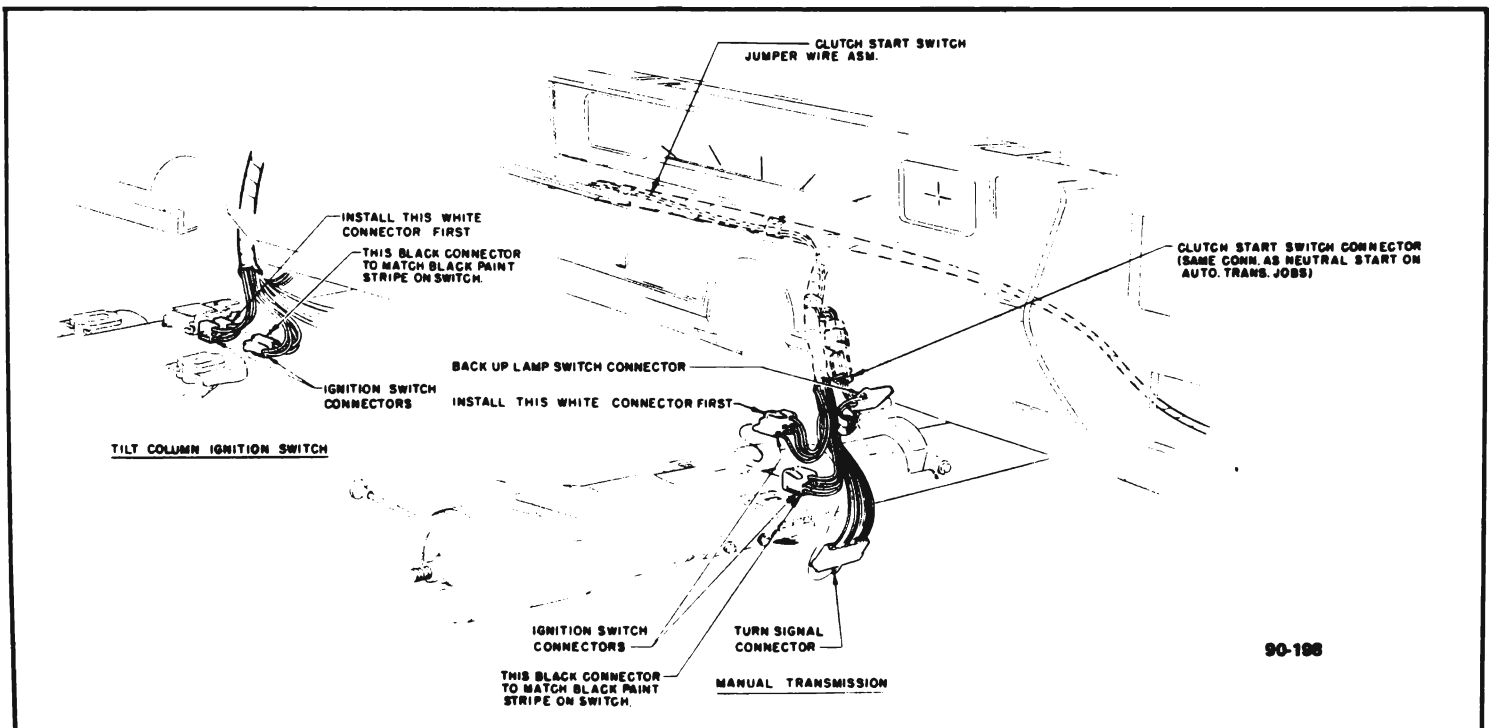

Figure 90-101 43-44000 Steering Column Electrical Connections
6. Disconnect all electrical connectors from steering column assembly and carefully withdraw column. See Figures 90-101, 102, 103.
2. Connect all electrical connectors to steering column. See Figure 90-101.
3. Position steering column to instrument panel, connect shift indicator link and loosely attach retaining nuts (F).
4. Position outer cover to dash and start screw (Q).
5. Install screw (L) and tighten to 40 lb.in. Tighten screw (Q) to 40 lb. in. Install and tighten screw (R) to 40 lb. in.
6. Tighten two clamp screws (C) to 40 lb. in.
7. Install and tighten two inner cover screws (J) to 40 lb. in.